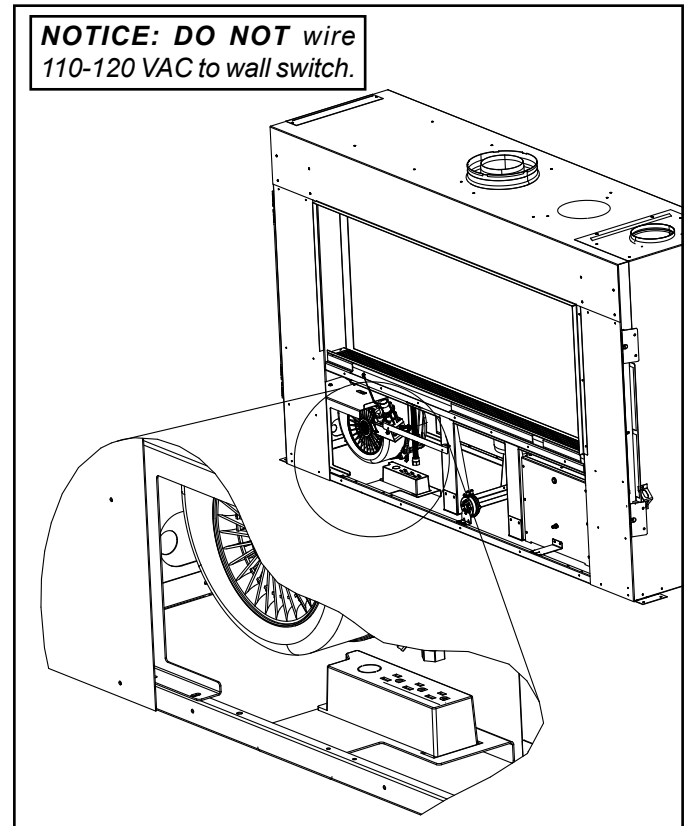

Figure 8.1 Junction Box Detail
- Remove the screw attaching the junction box to the junction box plate. Rotate the junction box up and off of the plate. See Figure 8.1.